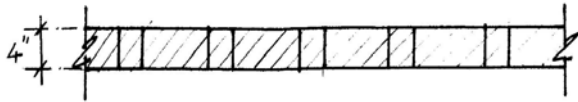

Fig 1B - Elevation
- The next row above the base row of bricks should have 2 bricks laid parallel with each other along the exterior and interior surface of the wall with a cavity between them. The ends of these bricks will be stabilised with the placement of a single brick on edge that spans the width of the wall. (see fig 1B)